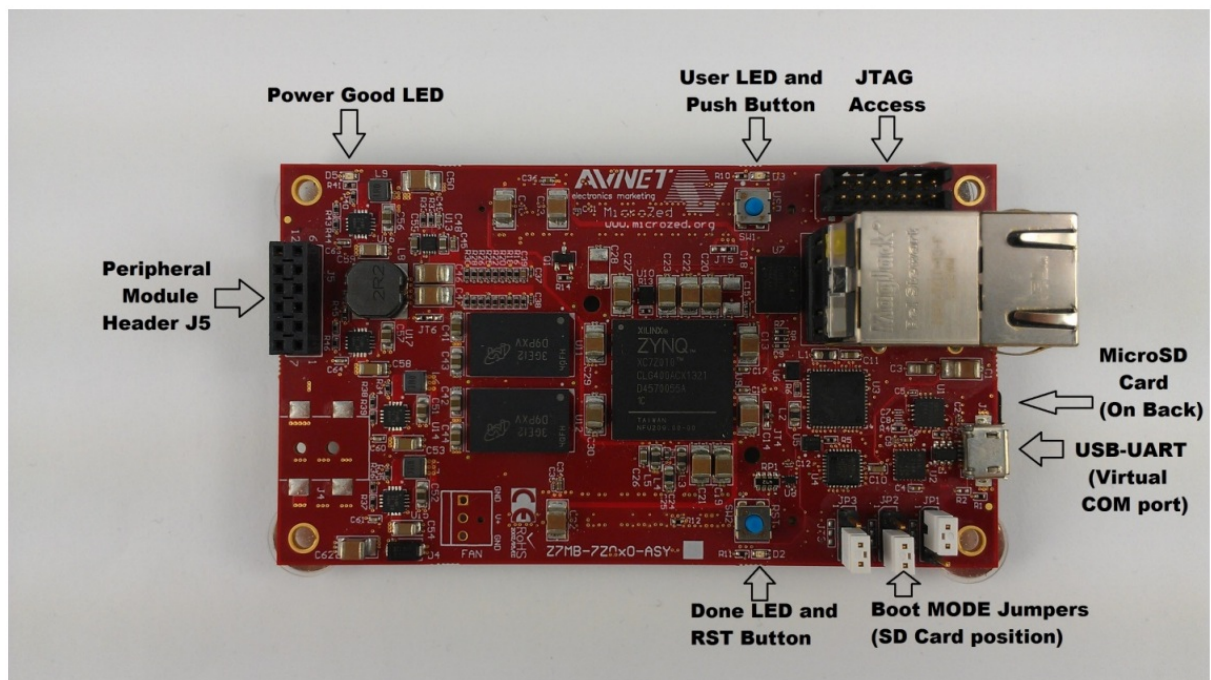

Figure 1. MicroZed Development Board
1. Plug the MAXREFDES44#, component side facing the MicroZed board (Figure 1), into J5 that is the row with pin 7 marked. **Note:** The MAXREFDES44# should be preprogrammed per Appendix A: Setup and Program the MAXREFDES44# before plugging into the system.